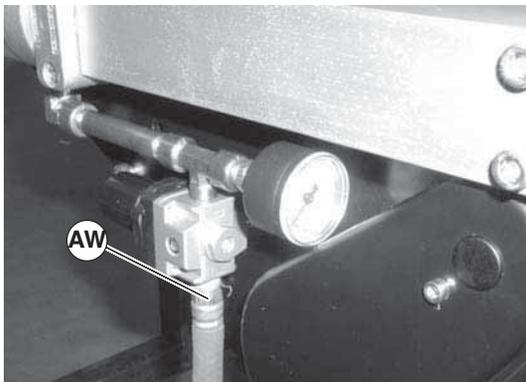

Figure 56
1. Remove air supply and remove hose (Figure 56, item AW) from center drive.